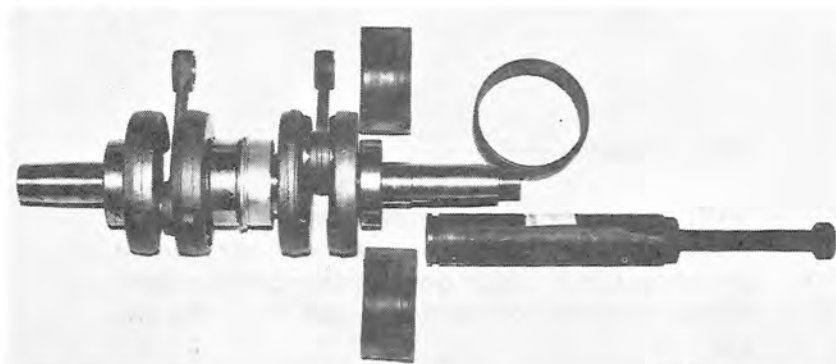

FIG. 1-25
To remove crankshaft end bearings, use bearing puller 444-31-807-0. See Figs. 1-25, 1-26, 1-27. Slip the puller half shells around the outer bearing race and around puller assembly. Slide the retaining ring over the half shells. Using two (2) 27 mm wrenches, turn the center bolt clockwise with one wrench and use the second wrench to hold the puller body. Before removing the PTO side crankshaft bearing, insert a 1/2" 20 UNF bolt, 1/2" long, to protect the internal thread of the crankshaft.